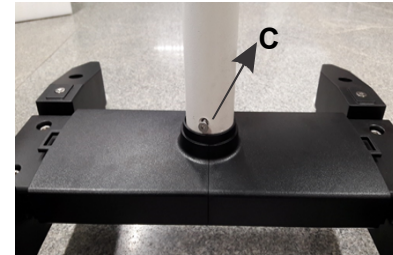

Fig. 12
7.1 a Align the tapped holes of the column with the shaft and tighten three allen screws from the sides, as shown as C in Fig. 12.